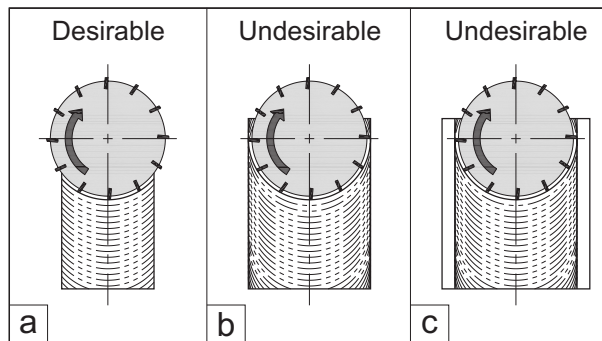

Figure 28-2
*Figure 28-2* shows desirable and undesirable relationship between cutter diameter and part width during face milling.